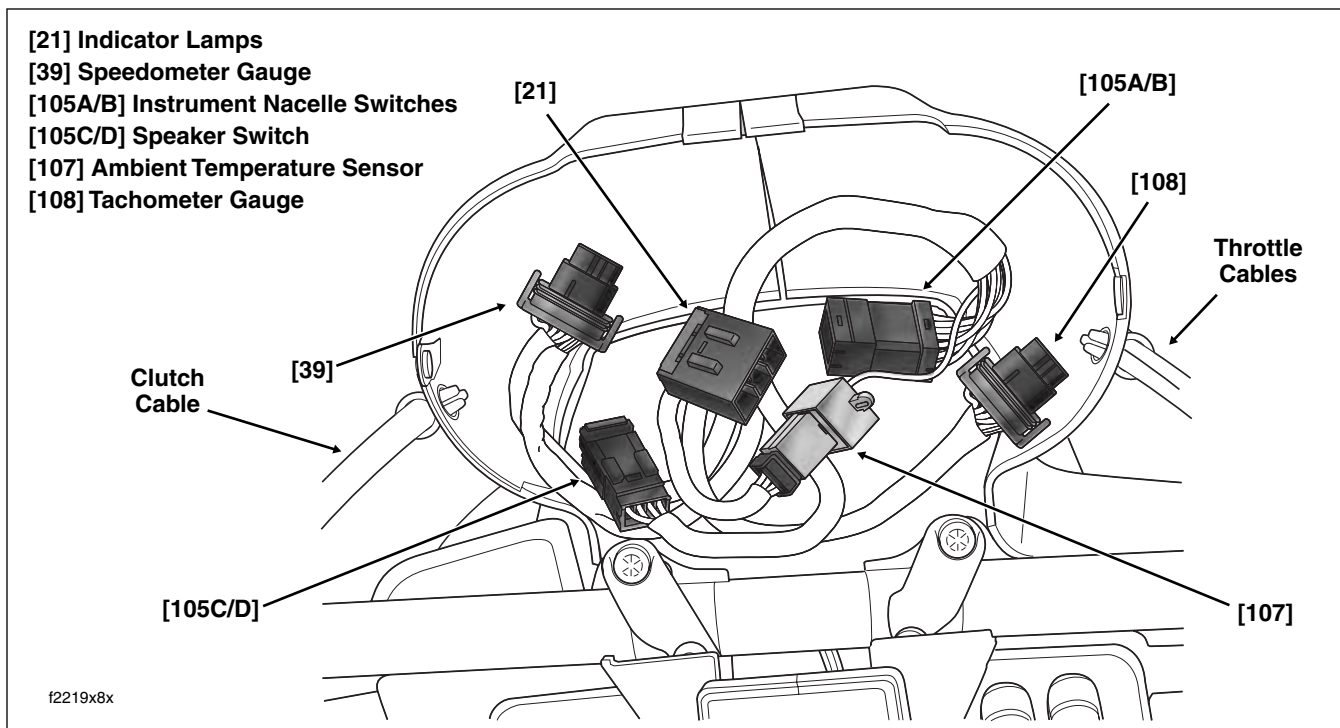

Figure 2-177. Instrument Nacelle (Bezel Removed)
4. See Figure 2-177. Disconnect instruments and indicator lamps from interconnect harness as follows:
1. See Figure 2-177. Looking into the instrument nacelle, connect instruments and indicator lamps to interconnect harness as follows:
3. See Figure 2-177. Disconnect left side switch from instrument nacelle switch harness as follows:
9. See Figure 2-177. Disconnect instrument nacelle switches and ambient temperature sensor from interconnect harness as follows:
10. See Figure 2-177. Draw branches of interconnect harness (terminating in odometer reset switch and speedometer, tachometer, indicator lamps, instrument nacelle switch and ambient temperature sensor connectors) from instrument nacelle through tunnel of fairing bracket to front of inner fairing.